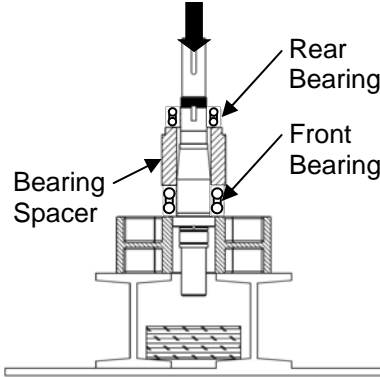

Figure 48: Removing Bearings and Sleeve From Shaft
6) Using a press and equally sized blocks, remove the front and rear bearings along with the bearing spacer. To prevent damage to the shafts make sure that both ends are protected (Figure 48). The bearings are press fit on the shaft and will require a press to be removed.